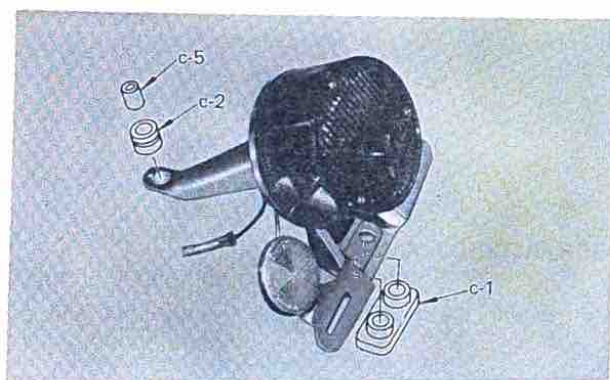

Fig. 39
31. Install the two rubber dampers (c-1, c-2), and fender mounting collar (c-5) contained in the vinyl bag (c). (Fig. 39)